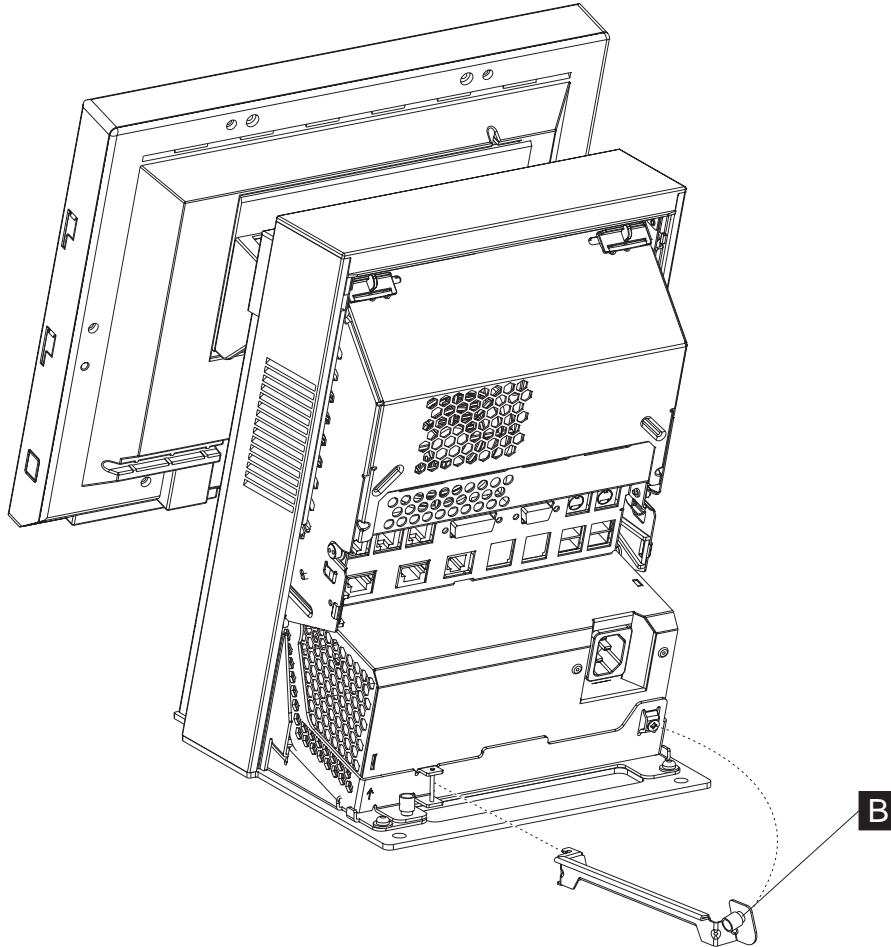

Figure 10. Cable tie bar
3. Loosen the captive thumbscrew **B**, as shown in Figure 10.
3. Open the cable tie bar by *loosening* the captive thumbscrew (**B** in Figure 10 on page 22) and disconnecting all of the cables.